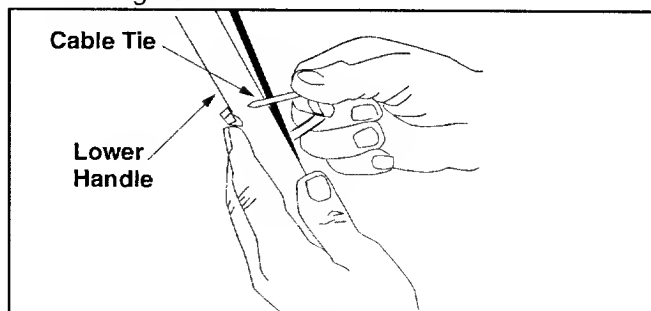

Figure 4
- Fasten the cables to the lower handle with the two cable ties found on the lower handle. Be sure to insert the post on the cable ties into the holes provided on the lower handle. These holes may be found on either the inside or outside of the handles. Pull the cable ties tight and trim off the excess. See Figure 4.